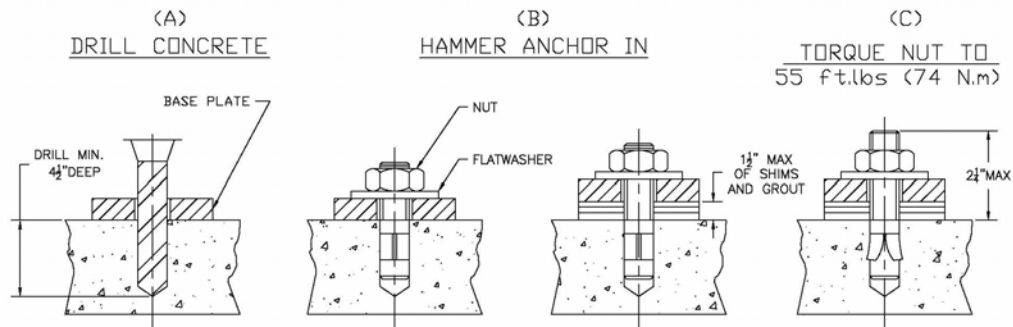

Figure 11 - Anchoring
3. Using a rotary hammer drill and a 1/2" concrete bit, drill through the floor at each of the four (4) anchor bolt locations on each of the base frames. Make sure that the 1/2" concrete drill bit is in good condition. Refer to **Figure 11**.